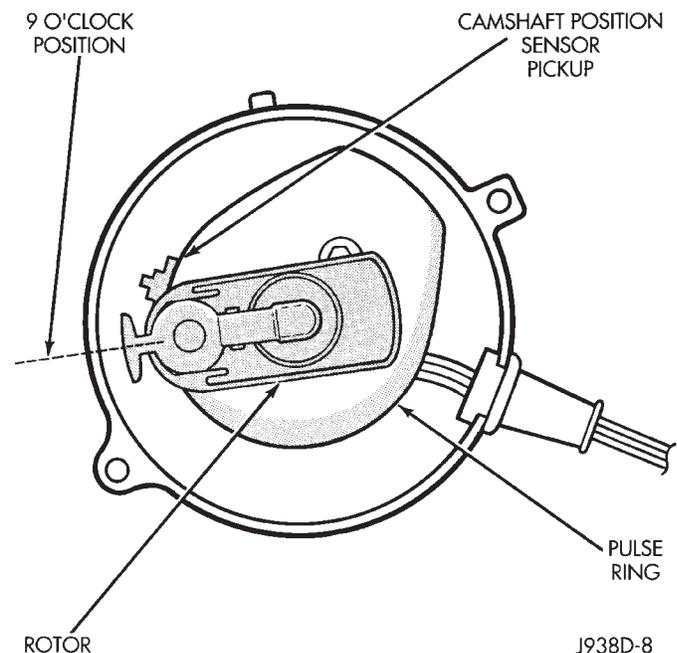

Fig. 1 Pulse Ring/Rotor Position—Typical
(1) Connect the positive (+) voltmeter lead into the sensor output wire. This is at done the distributor wire harness connector. For wire identification, refer to Group 8W, Wiring Diagrams.
(2) Connect the negative (-) voltmeter lead into the ground wire. For wire identification, refer to Group 8W, Wiring Diagrams.
(3) Set the voltmeter to the 15 Volt DC scale.
(4) Remove distributor cap. Rotate (crank) engine with starter until pulse ring (Fig. 1) enters the magnetic pickup on camshaft position sensor. Distributor rotor should be pointed in 9 o'clock position. The movable pulse ring should now be within the sensor pickup.